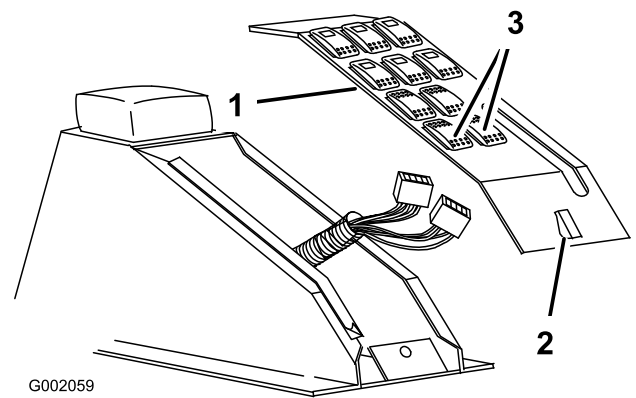

Figure 25
2. Release the latch and remove the switch panel assembly from the center console assembly (Figure 25).